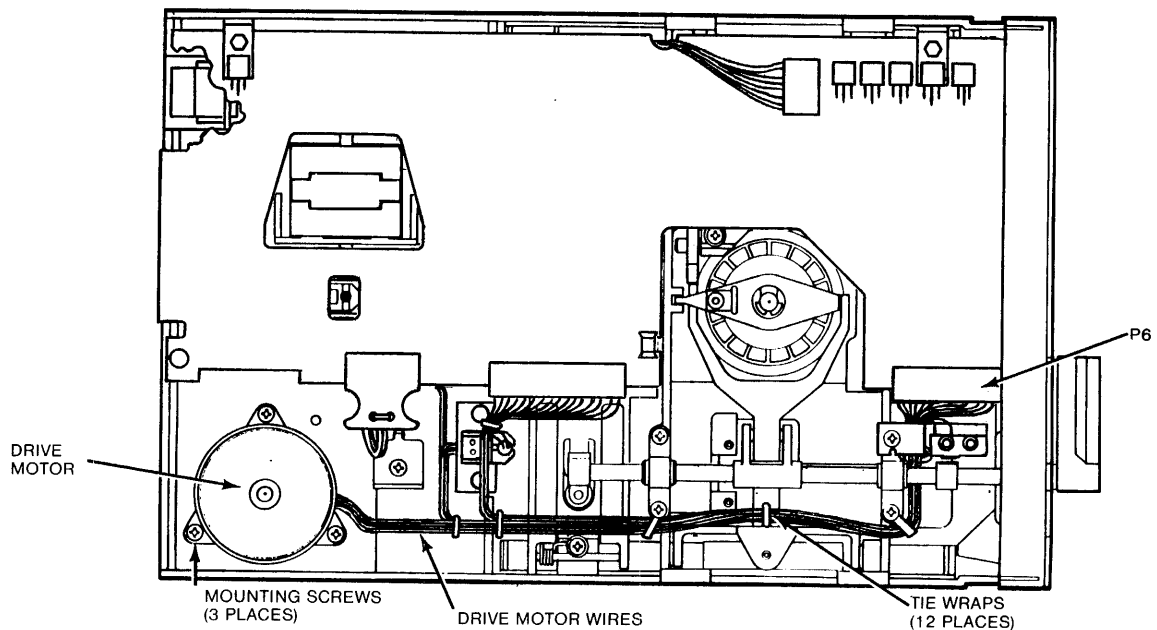

Figure 5-2
- B. After turning the drive over, cut the tie wraps that hold the drive motor's wires (see Figure 5-2).
- C. Carefully rebundle the wires, including the drive motor wire, and cable harness them (see Figure 5-2).